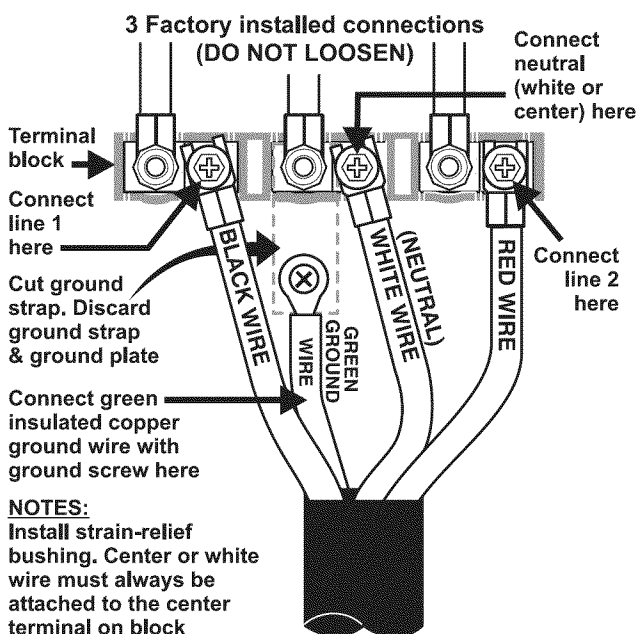

Fig. 29
4. Connect the ground wire (Green) lead with the eyelet to the frame of the appliance with the ground screw using the same hole in the frame where the ground screw was originally installed (See Fig. 29).